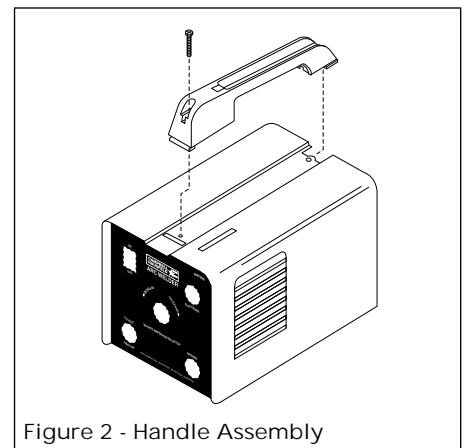

Figure 2 - Handle Assembly
3. Fasten screw through handle and into cabinet (See Figure 2).